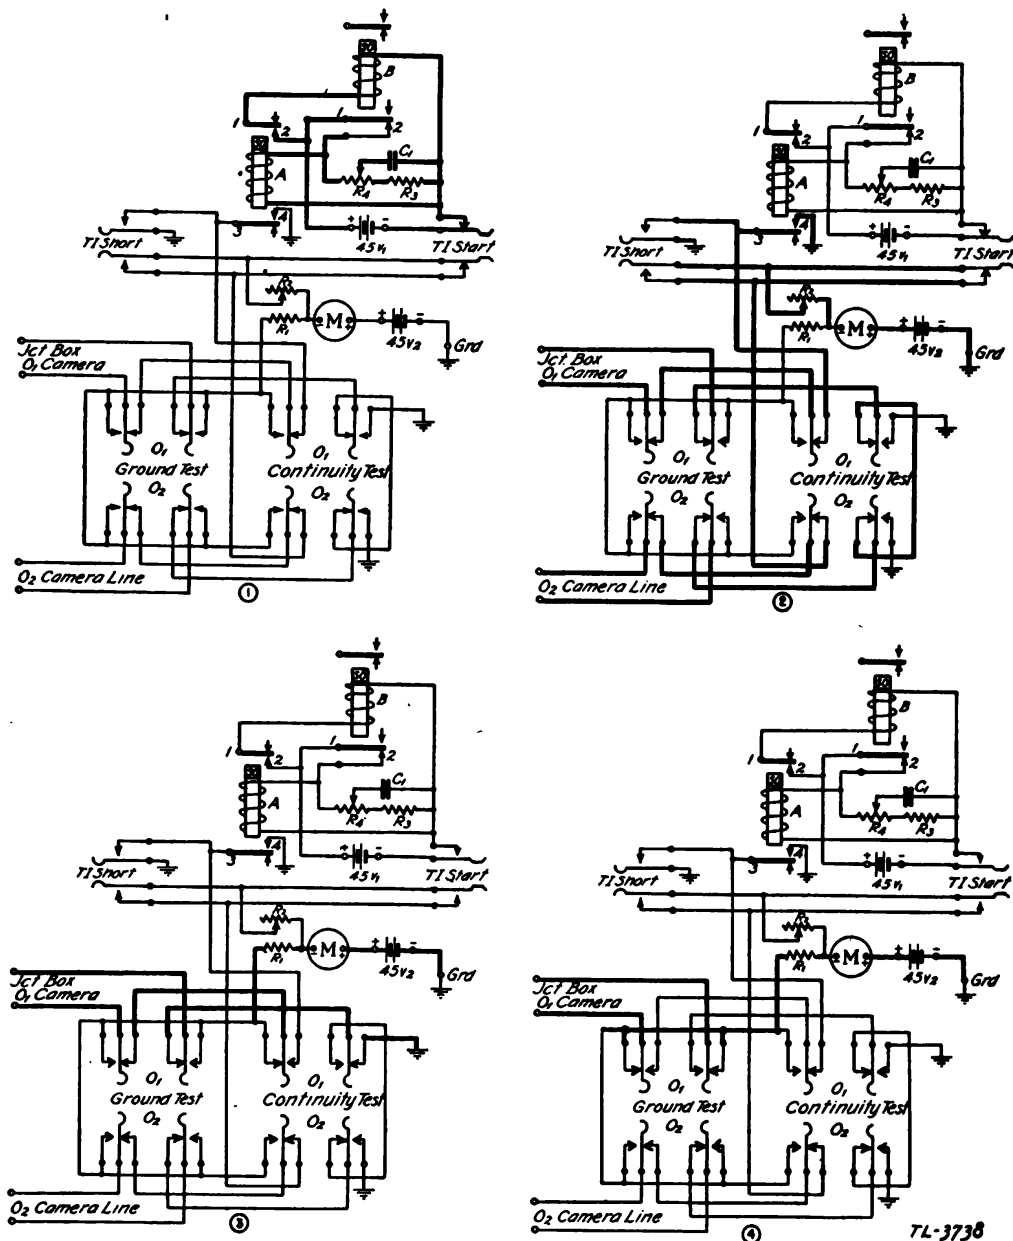

FIGURE 29.—Functional diagrams for time interval device PH-103.
a. Time interval circuit.—This portion of the time interval device circuit, shown by the heavy lines in figure 29①, consists of two slow operating relays A and B, resistor R_3 , potentiometer R_4 , capacitor C_1 and one contact of the T. I. start switch, and draws power for operation from the battery V_1 . When the T. I. start switch is closed relay A operates through contacts 1 and 2 on relay B. As soon as relay A has operated, relay B operates through contacts 1 and 2 on relay A, and causes relay A to release. Releasing of relay A opens the operating circuit of relay B and it releases. This completes the cycle of operation; both relays are released and relay A again operates to repeat the cycle. The contacts 3 and 4 on relay A are connected to the theodolite circuit. The time interval is controlled by use of the resistor R_3 , potentiometer R_4 , and capacitor C_1 . While relay B is in a non-operated condition the capacitor C_1 is being charged, the rate of charge controlled by the setting of the potentiometer R_4 . When relay B operates the capacitor stops charging and starts discharging through two paths, one path through the resistor R_3 and a part of potentiometer R_4 , and the other path through the remainder of the potentiometer and relay A. Relay A will not release until the voltage impressed by the capacitor C_1 drops below the "hold" value of the voltage for the relay. This delay in the releasing time of relay A lengthens the time per cycle of operation of the two relays and thus controls the time interval. This circuit is designed to provide an adjustable range in pulsing rate of one cycle per second plus or minus 20 percent.
b. Theodolite circuit.—This portion of the time interval device circuit, shown by the heavy lines in figure 29②, consists of one contact of the T. I. start switch, a T. I. short switch, rheostat R_2 , meter M (common to several circuits), 45-volt battery V_2 , and contacts 3 and 4 of relay A. With the T. I. start switch closed, each time relay A operates contacts 3 and 4 close the circuit containing the rheostat R_2 ,
time interval device circuit, shown by the heavy lines in figure 29③, is to place the battery V_2 in series with meter M , resistor R_1 , and each theodolite line, one at a time. This is done by operating the continuity test key to the "O₁" or "O₂" position to test either the O₁ or O₂ lines. Either line may be tested at any time, but the signal switch of the theodolite whose line is being tested must be closed at the time the test is being made. Each time the key is operated the signal lamp of the theodolite on the line being tested will light and its time counter will advance one unit. Figure 29③ shows the circuit (heavy lines) for testing the O₁ line.
d. *Ground test circuit.*—The basic function of this portion of the time interval device circuit, shown by the heavy lines in figure 29④, is to place both sides, paralleled, of either the O₁ or O₂ line in series
with the resistor R_1 , meter M , V_2 , and ground. The ground connection is supplied by a ground rod connected to a ground terminal at the lower left corner of the panel. It is not necessary for the signal switches on the theodolites to be closed for this test. Figure 29④ shows the circuit (heavy lines) for testing the O₁ line.